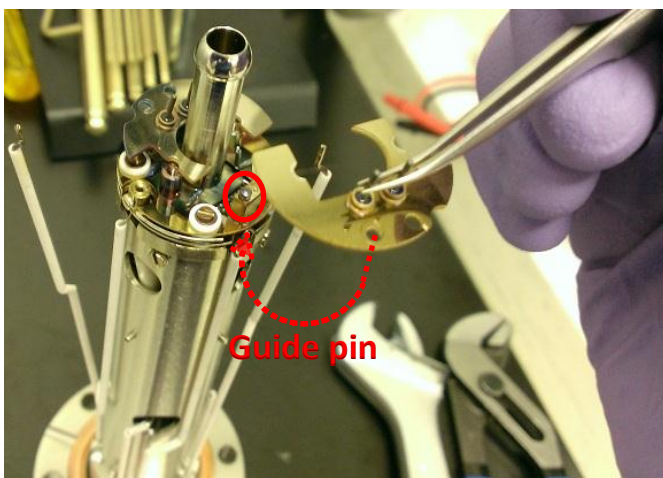

Fig 17
18. Using tweezers, place the new filament. The filament will only fit in the correct orientation, as the filaments are keyed and there is a guide pin on the repeller block (Fig 17).